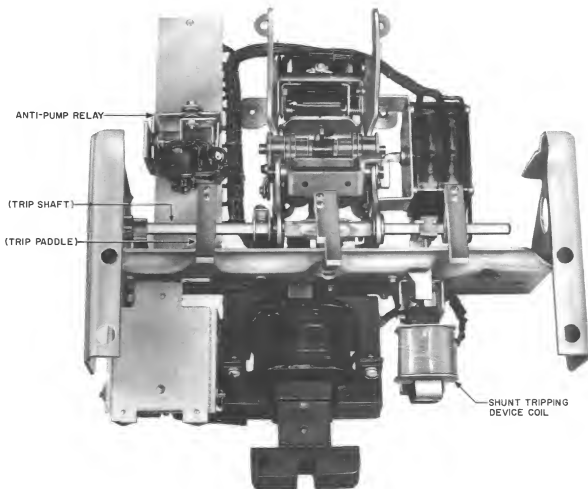

Fig. 6 - Rear of Front Frame
(d) Care should be exercised in separating the two frames to avoid damage to the trip shaft arms and paddles (see Fig. 6). While the back frame is held steady, lift the front frame and mechanism up and out so that the trip paddles on the trip shaft clear the trip arms of the overcurrent trip devices. After making the necessary replacements and adjustments, reassemble the breaker in the reverse order.
- (1) With the 3-inch C screwdriver, remove the auxiliary switch cover. Disconnect leads to the switch terminals using the 4-inch E screwdriver. Remove the front escutcheon by removing the four Phillips head screws from the flange of the escutcheon using the B screwdriver, No. 3. Remove two screws which fasten the switch to the side of the mechanism frame and remove the switch by moving it towards the left.
- (2) Before mounting the replacement switch, turn the crank end of the switch operating shaft in position to engage the hole in the link connected to the breaker mechanism. Be sure the bearing washer is in place between the mechanism link and the switch operating shaft.
3.11 Shunt Tripping Device — See Fig. 6
- (1) To replace the contactor, pull off the contactor cover and mark and disconnect the leads from the terminals. Use the 4-inch E screwdriver to disconnect the leads. With a suitable wrench, remove the nuts from the three mounting studs. If the contactor unit includes the mounting bracket, remove the unit by removing the two screws which fasten the contactor bracket to the breaker frame.
3.16 Anti-Pump Relay — See Fig. 6